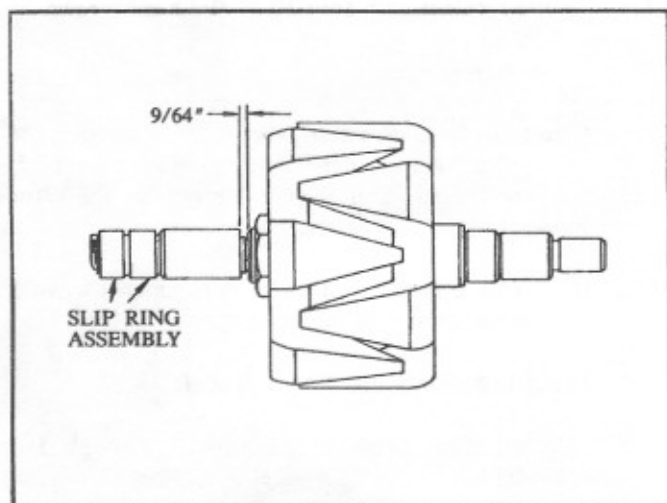

Figure 25
2.10 Press SRE bearing inner race on shaft with chamfered side toward serrated end of shaft. See Fig. 25 for dimensions.